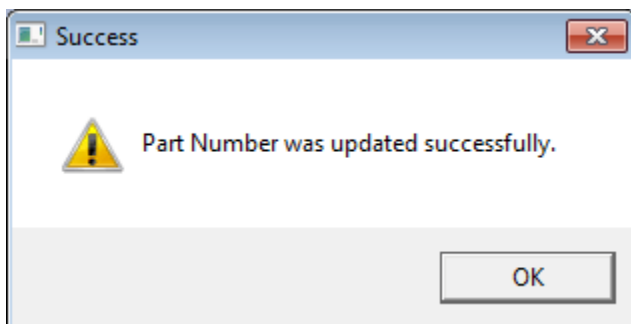

Figure 10: Wavelength Tuning GUI – Successful change of the part number and wavelength
5. The wavelength and the part number will be changed and a message will be shown as in Figure 10.